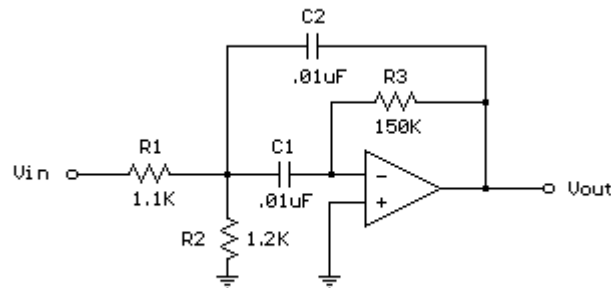

Figure 9 – Band-pass filter using an op-amp
The application of this extremely useful and versatile integrated circuit (IC) will be to construct better filters than we did in section 4 above. A simple band-pass filter using an op-amp is shown in Figure 9. The values of the resistors and the capacitors here have been chosen to produce a band-pass filter with the centre of its pass-band at  $1700\text{Hz}$ .